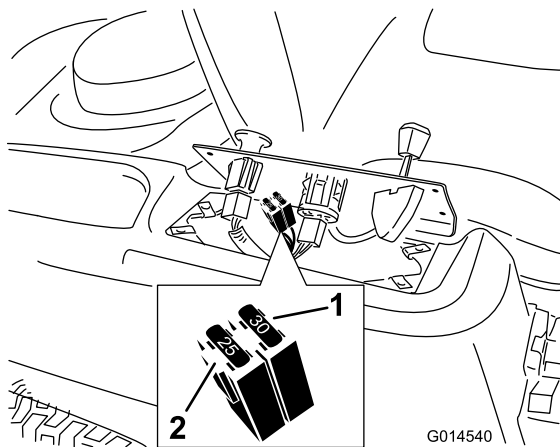

Figure 37
2. Lift the control pane up to access the main wiring harness and fuse block (Figure 37).
3. To replace a fuse, pull out the fuse to remove it (Figure 37).